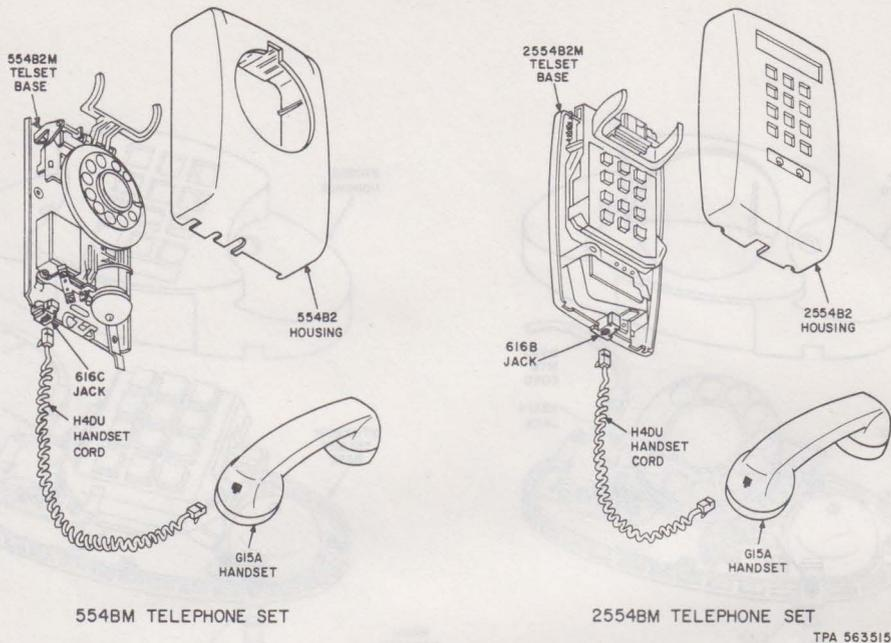

Fig. 6—554BM and 2554BM Telephone Set, Assembly
- (1) Remove housing, handset, handset cord, finger stop, fingerwheel, and dial number plate.
- (2) For dial conversion refer to 4.01 (2), (3), and (4).
- (3) Position 616C jack in left bottom corner of basepan (Fig. 6 and 13), connect jack leads as shown in Fig. 36.
- (4) Install 554B2 housing, handset, and handset cord as shown in Fig. 6.